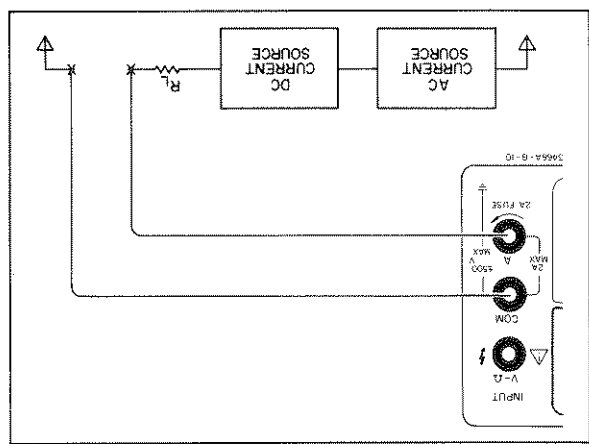

Figure 3-10. True RMS Current Measurement.
- c. Connect test leads from the Multimeter A and COM terminals in series with the current under test as shown in Figure 3-10.